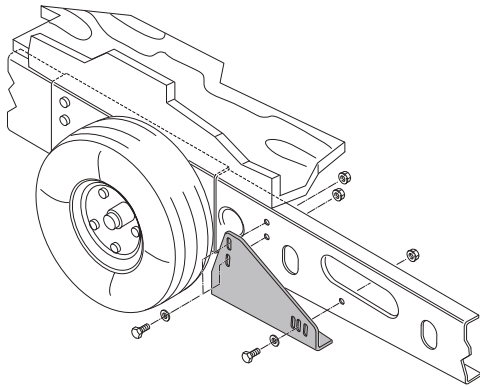

Fig. 13
- Suitable for caravans up to 1800 kg with an AL-KO Vario III/AV chassis with a frame thickness of less than 2.8 mm (Fig. 13).